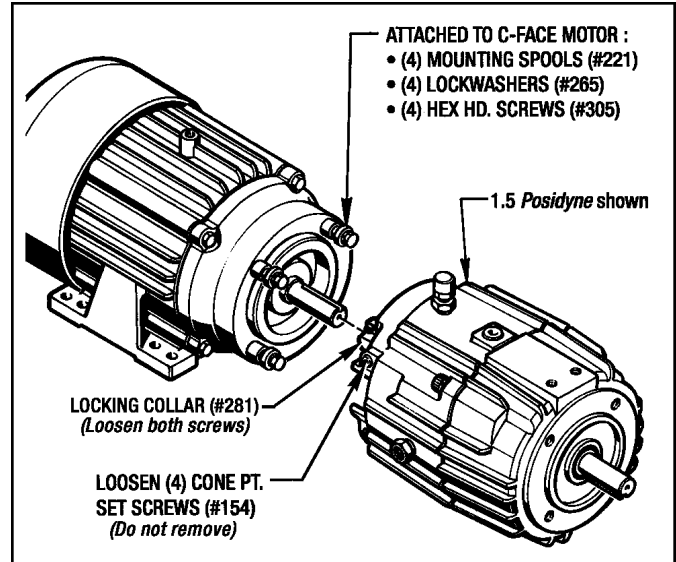

Figure 7.1 - Disconnecting the C-Face Motor
(See Figure 7.1 and 10.1 and 10.2)
1. Loosen the (4) Cone Point Set Screws (#154) in the Input Housing enough so the Drive Unit can be removed from the (4) Mounting Spools (#221), which are attached to the drive motor. Loosen the (2) Screws in the Locking Collar (#281). Pull the Drive Unit away from the motor, sliding the motor shaft out of the Quill Input Shaft (#2). (See Figure 7.1)
(See Figures 7.1 and 10.4)